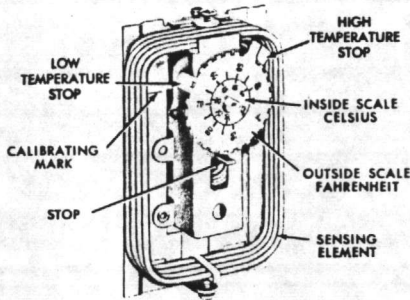

Fig. 2 — Interior of T26. Note how element is wrapped around inside of thermostat for maximum sensitivity. Integral adjustable high and low temperature stops.
- Low and high temperature dial stops — concealed and adjustable throughout set point range. Can be set for locked dial. (See Fig. 2.)
The cover and faceplate design makes the thermostats adaptable to any decor. The thermostats have a sturdy steel cover with "tawny silver" finish. The faceplate is dark brown and light brown with aluminum numbers and graduation marks. The internal dial on these thermostats has a dual Fahrenheit-Celsius scale. (See Fig. 2.) When a faceplate with Celsius thermometer and set point scale is used the thermostat is totally Celsius.
changes. (See Fig. 2.) Coupled with a highly efficient diaphragm and leverage mechanism, the element operates a totally enclosed Pennswitch contact unit for close differential and dependable switching action without the use of "heat or cool" anticipators.